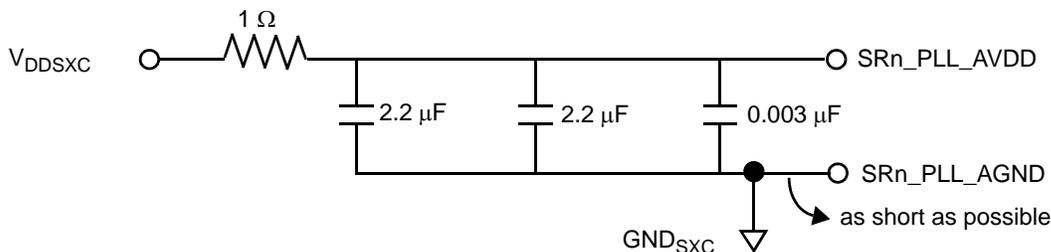

Figure 38. SerDes PLL Supplies
- Couple inputs SR1\_PLL\_AVDD and SR2\_PLL\_AVDD with SXCVDD1 and SXCVDD2 power rails, respectively, using an RC filter (see Figure 38).
Each SerDes PLL power supply must be filtered using a circuit similar to the one shown in Figure 38, to ensure stability of the internal clock. For maximum effectiveness, the filter circuit should be placed as closely as possible to the SRn\_PLL\_AVDD ball to ensure it filters out as much noise as possible. The ground connection should be near the SRn\_PLL\_AVDD ball. The 0.003  $\mu F$  capacitor is closest to the ball, followed by the two 2.2  $\mu F$  capacitors, and finally the 1  $\Omega$  resistor to the board supply plane. The capacitors are connected from SRn\_PLL\_AVDD to the ground plane. Use ceramic chip capacitors with the highest possible self-resonant frequency. All trances should be kept short, wide, and direct.